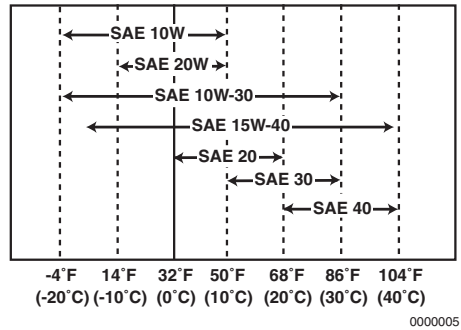

Figure 3
3. Select the oil viscosity based on the ambient temperature where the engine is being operated. See the SAE Service Grade Viscosity Chart (**Figure 3**).
Select the appropriate engine oil viscosity based on the ambient temperature shown in the SAE Service Grade Viscosity Chart in (**Figure 3**).